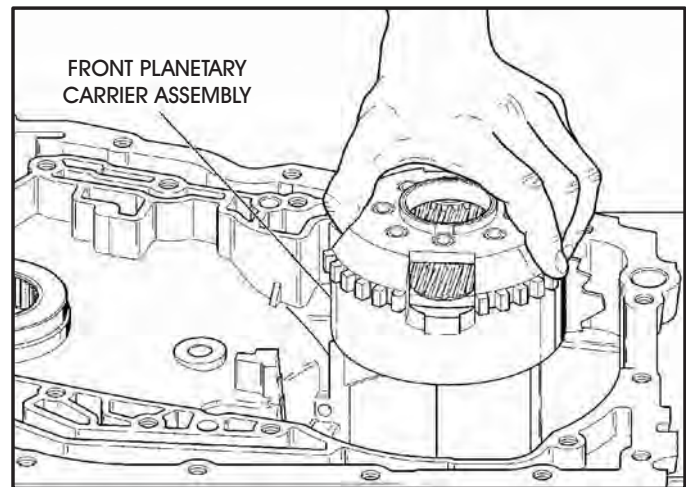

Figure 70
49. Remove the front planetary carrier, as shown in Figure 70.